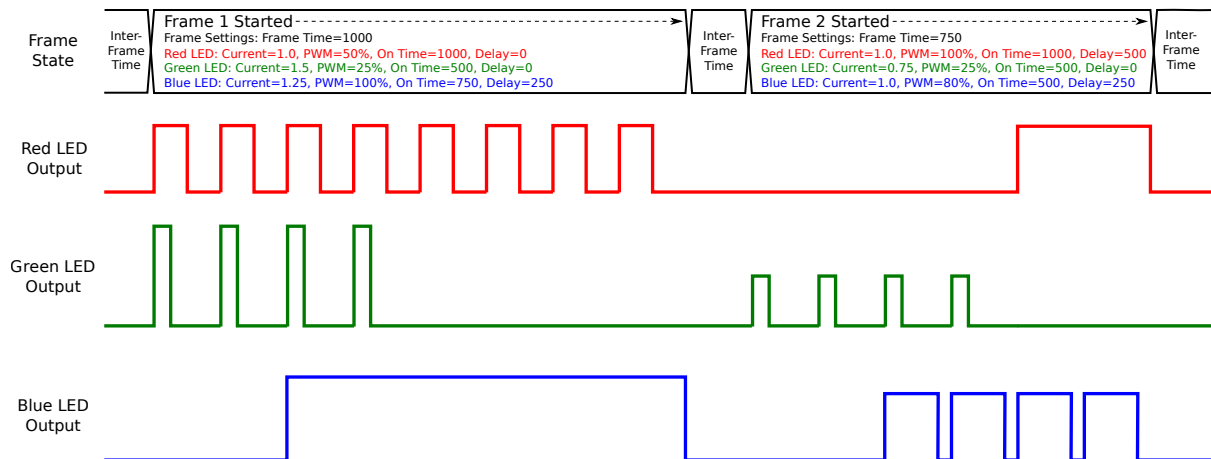

Figure 7.1: 3-channel LED output over two frames, with different LED Settings per channel and per frame.
The example in Figure 7.1 shows the behavior of three LEDs, red, green and blue, over the time period of two frames in a sequence. As we saw in Chapter 6, Frames have a frame time which defines how long the frame is exposed for, and has a list of LED settings, one for each channel. In the example, each of the three channels have different LED Settings including LED current, PWM percentage, LED on time, and LED delay time, and these LED Settings are varied between the two frames shown.
The LED current controls the brightness of the LED for the duration of the frame. The Ajile lighting controller has high speed control of LED current so that new current settings for a frame (which may be vastly different from the previous frame) take effect almost immediately. In Figure 7.1, we see that the red LED current remains a constant 1.0 over both frames. The green LED has a current value of 1.5 in the first frame while in the second frame its current drops to half its value to 0.75. We can observe this drop in current represented as a drop in green LED output amplitude (which will correspond to brightness of the actual physical LED). Similarly, the blue LED current setting drops from 1.25 to 1.0 over the two frames.
Note that the current in this example is of arbitrary units but is eventually mapped to amperes (A). Time units are also arbitrary in Figure 7.1, but can easily be mapped to seconds, milliseconds, etc.
The LED PWM is expressed as a percentage of the LED on time over a fixed repeating PWM period. In Figure 7.1 we see that the PWM period is $\frac{1}{8th}$ the frame time of the first frame since there are 8 individual PWM periods seen for the red LED which has a PWM of 50%, and its on time is for the full frame time. Frame 1 has a frame time of 1000 time units, therefore the PWM period in this example is $\frac{1000}{8} = 125$ time units. With a PWM percentage of 50% for the red LED in Frame 1, we therefore see that for half of each PWM period the red LED is emitting light, and for the other half of each 125 time unit length PWM period the LED is not outputting light. In Frame 2, the red LED has a PWM of 100%, meaning that the red LED will not be pulse-width modulated and so is on for the entire duration
LED on time is the amount of time that the LED will be left on from the time that it is first enabled during a frame. When an LED delay setting is not used (i.e. the delay is zero), then the LED will be turned on immediately at the start of the frame. In Figure 7.1, a short inter-frame time is shown in the frame state timeline to indicate the gap in between adjacent frames. After this inter-frame time, the frame begins. When no delay time is set, the LED is turned on immediately at this frame begin event. From the initial turning on event of the LED, the LED will remain enabled for the LED on time. In the example, the red LED on time is set to the frame time of 1000 time units for Frame 1 and so is on for the entire frame. The green LED however has an on time of 500 time units for Frame 1 which is half the total frame time, therefore the green LED is enabled for only the first half of the frame. The blue LED has an on time of 750 units for Frame 1 and so is on for $\frac{3}{4}$ of the frame time. The blue LED also has a delay time set and so is not immediately enabled when the frame starts; delays will be discussed next.
In the example of Figure 7.1, the red and green LEDs have the delays set to the default of zero for Frame 1, and therefore are enabled immediately at the start of the frame. The blue LED on the other hand has a delay of 250 time units and so is enabled 250 units after the start of the frame. For Frame 2, the green and blue LED channels use the same delay values of 0 and 250 time units, respectively. The red channel on Frame 2 now has a delay of 500 time units specified and so it is enabled 500 after the beginning of the frame.
Note that in Figure 7.1, the red LED settings specify a delay of 500 and an on time of 1000, which would mean that the LED would actually be on for longer than the total frame time of 750 time units. This is not allowed by sequences. As a rule the lighting for each frame is independent of the last. The sequence verifier therefore will detect such cases and will clamp the total LED time, defined as the total on time + delay time, to be the frame time. Also it should be noted that delay times greater than the frame time result in the LED never being enabled for the frame. These cases will be flagged as warnings by the sequence verifier.
The list of LED Properties are iterated through and the descriptions and colours are output. Three new LEDSetting objects are then created to be used as default values for the red, green and blue LED channels. The values of the defaults are identical to those seen in the example of Figure 7.1. Note that the current units (the first argument of the constructor) is specified in milliamps, and the on time and delay times are given in milliseconds. Internally, all times are stored in 10 ns units, therefore a helper function `FromMSec` is used to easily convert from ms values to internal 10·ns units. Once the default LED Settings have been created, the defaults of the component can be updated using `Project.SetDefaultLedSetting()` for each of the three LED Settings. Finally, the updated default settings of the component are output. Note that the LED time accessor functions have the suffix `MSec()`, for example `LedSetting.OnTimeMSec()`. This convenience function performs the conversion of internal 10·ns units to ms. Other conversion functions to/from ns, μ s, and seconds are also available.